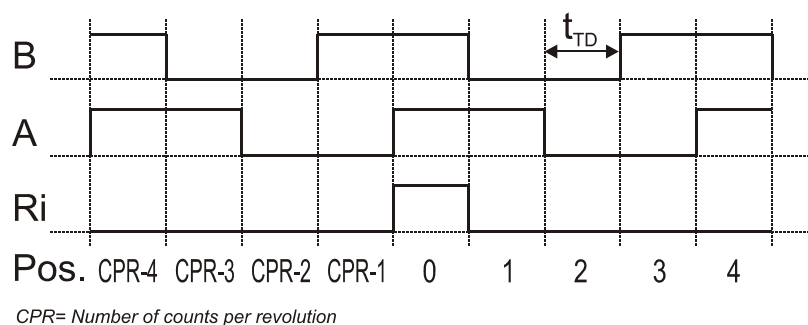

Fig. 6: Timing diagram for incremental output
** See Fig. 6. Figures are for highest values of oscillator frequency (f_{osc} = 83 MHz).
Fig. 6 shows the timing diagram of A, B and Ri signals with CW rotation of the magnet and positive counting direction. B leads A for CW rotation. The counting direction can be changed by swapping the A and B signals or by programming the EEPROM with negative counting direction settings.